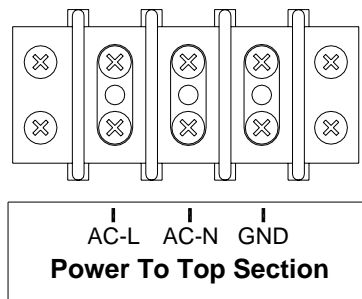

Figure 6 Power to Top Section Connections
3. Connect the cable to the terminal block labeled **Power to Top Section** according to figure 6.